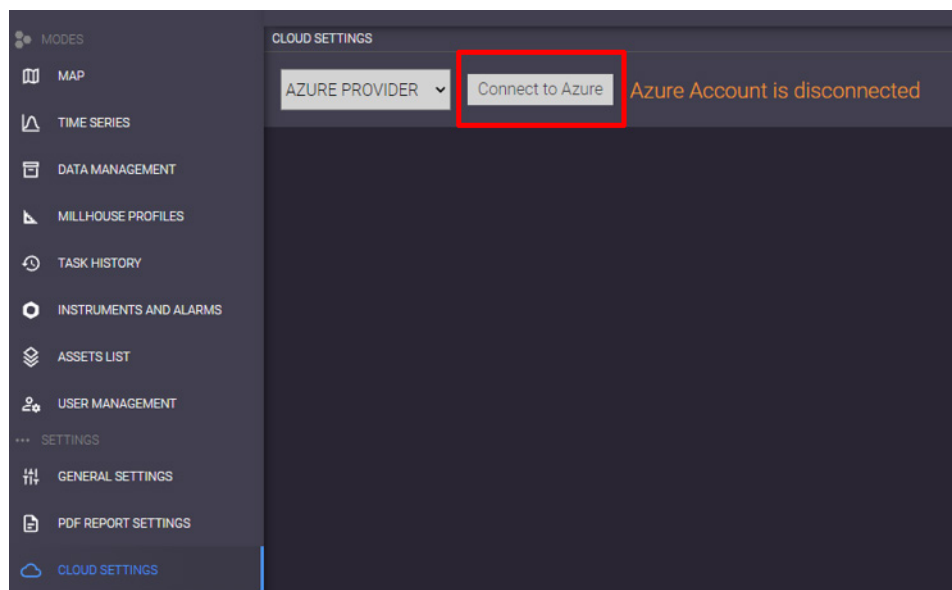

Figure 148 Connect to Azure
- 2 Click **Connect to Azure** (see Figure 148).